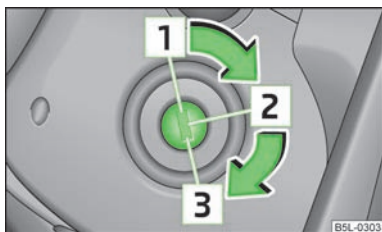

Fig. 94
- Fully depress and hold the clutch pedal, switch on the ignition **2** » Fig. 94 and start **3** - do not operate the accelerator. Depress the clutch pedal until the engine starts.
Switch off the engine by turning the ignition key into position **1** » Fig. 94.